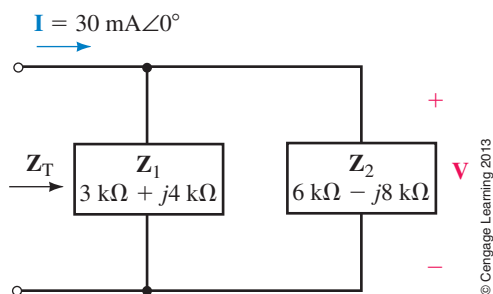

FIGURE 18-105
35. Refer to the network of Figure 18-105.